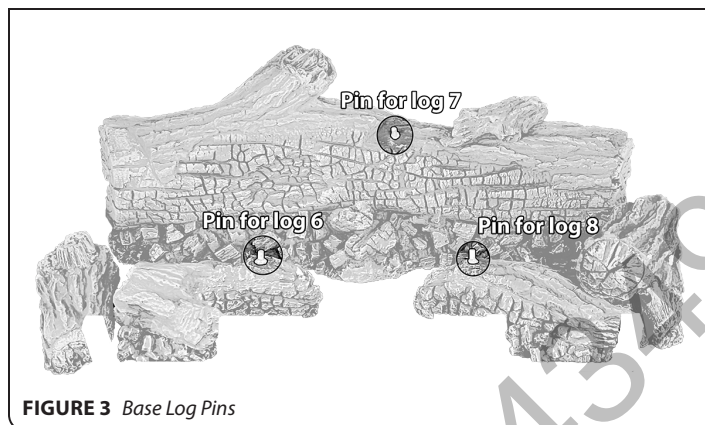
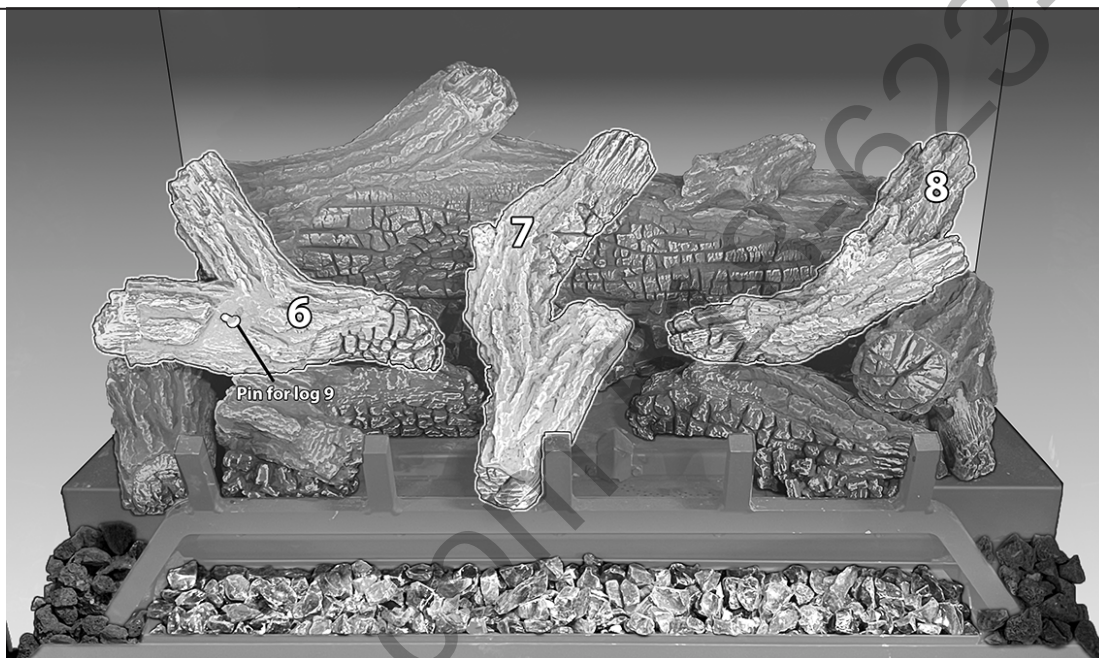

FIGURE 3 Base Log Pins
FIGURE 4 Top Logs
3. Align the hole in log 6 with the pin in log 3 (**FIGURE 3**) and position as shown in **FIGURE 4**.
4. Align the hole in log 7 with the pin in log 1 (**FIGURE 3**) and position as shown in **FIGURE 4**.
5. Align the hole in log 8 with the pin in log 4 (**FIGURE 3**) and position as shown in **FIGURE 4**.
6. Align the hole in log 9 with the pin in log 6 and position as shown in **FIGURE 4**.
7. Set log 10 in position as shown in **FIGURE 4**